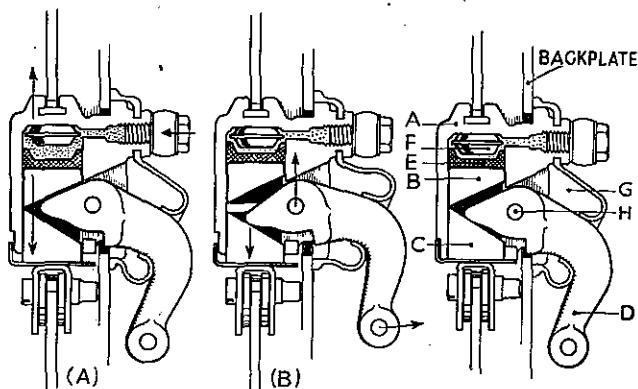

Fig. 3
## REAR WHEEL CYLINDER (See Fig. 3)
The wheel cylinder (A) contains a single piston split in two, the inner piston (B) being hydraulically operated while the outer piston (C) is manually operated by the handbrake lever (D). The inner piston is backed by a rubber cup (E) and the space in front of the cup is partially occupied by a cup filler (F). When operated hydraulically, as in (a) of Fig. 3, the inner piston butts against the outer piston, leaving the handbrake lever (D) undisturbed, and applies a thrust to the tip of the leading shoe through the dust cover, "MICRAM" adjuster and mask. When operated manually, as in (b) of Fig. 3, an inward movement of the handbrake lever brings the heel of the lever into contact with the outer piston (C), thrusting it outwards against the leading shoe without disturbing the inner piston. A rubber boot (G) is fitted to exclude foreign matter.